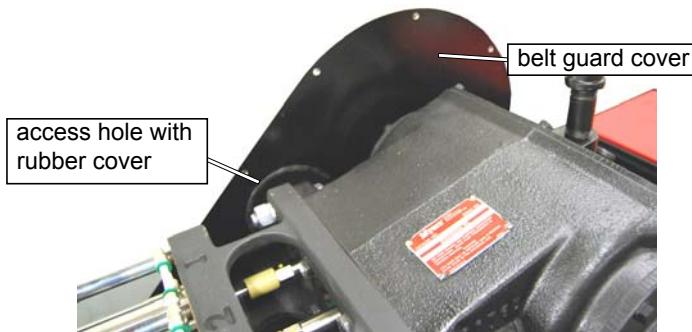

Figure 6-38
2. Access to the **wrench flats** on **plunger assemblies** is through an opening in the top of the adapter block. Remove metal **cover plate** (Figure 6-38) on top of the adapter block and set it aside.
13. Install **access cover** onto the **belt guard** (Figure 6-38).